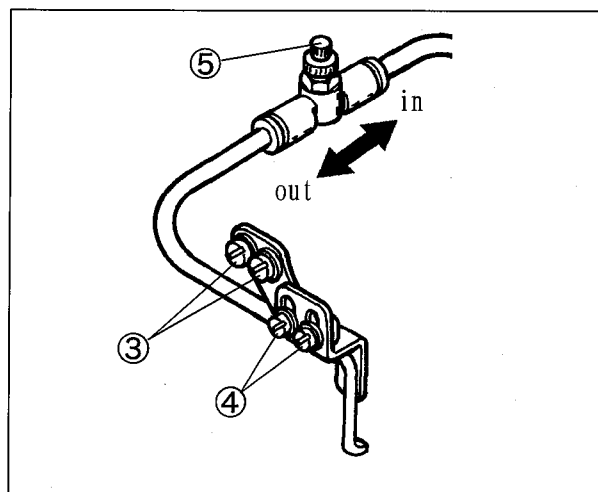

Fig. 50
The engagement between the movable trimming knife ③ and the fixed trimming knife ④ should be adjusted to 0–0.05 mm as shown in Fig. 50.